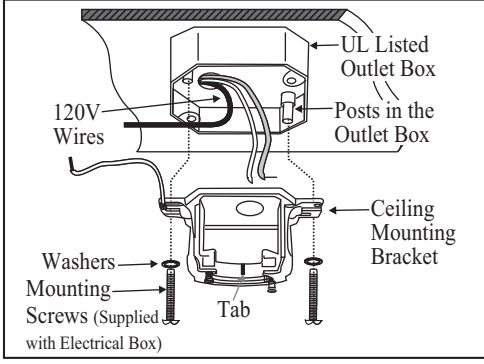

Figure 8
1. Pass the 120-volt supply wires through the center hole in the ceiling mounting bracket as shown in Figure 8.
2. Install the ceiling mounting bracket to the outlet box; be sure to align the holes in the hanger bracket with the post holes in the outlet box and secure with screws and washers provided by the outlet box. (Fig. 8)